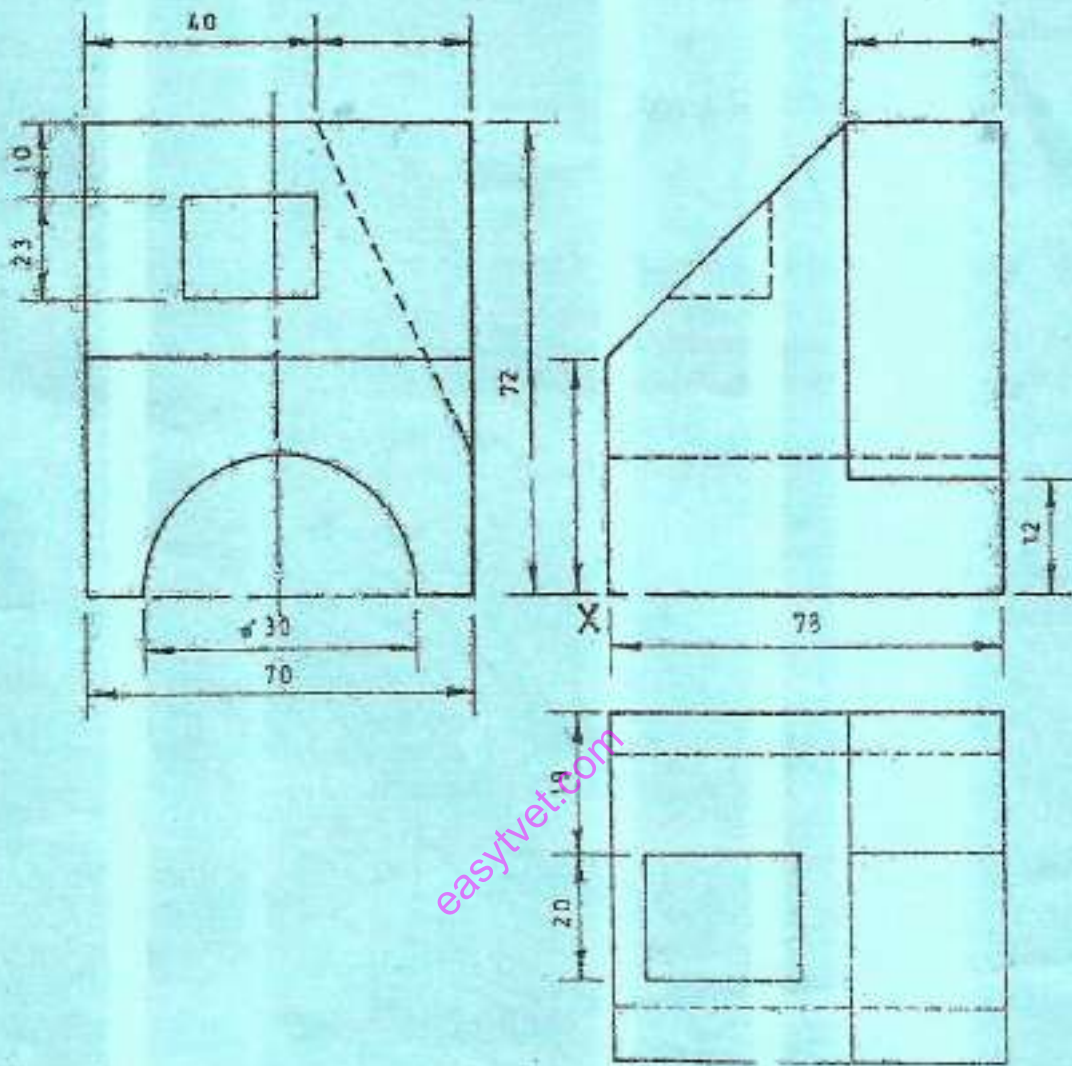

Fig. 3
4. Figure 3 shows views of a machine block. Draw full size the block in isometric projection with corner X as lowest point. (20 marks)